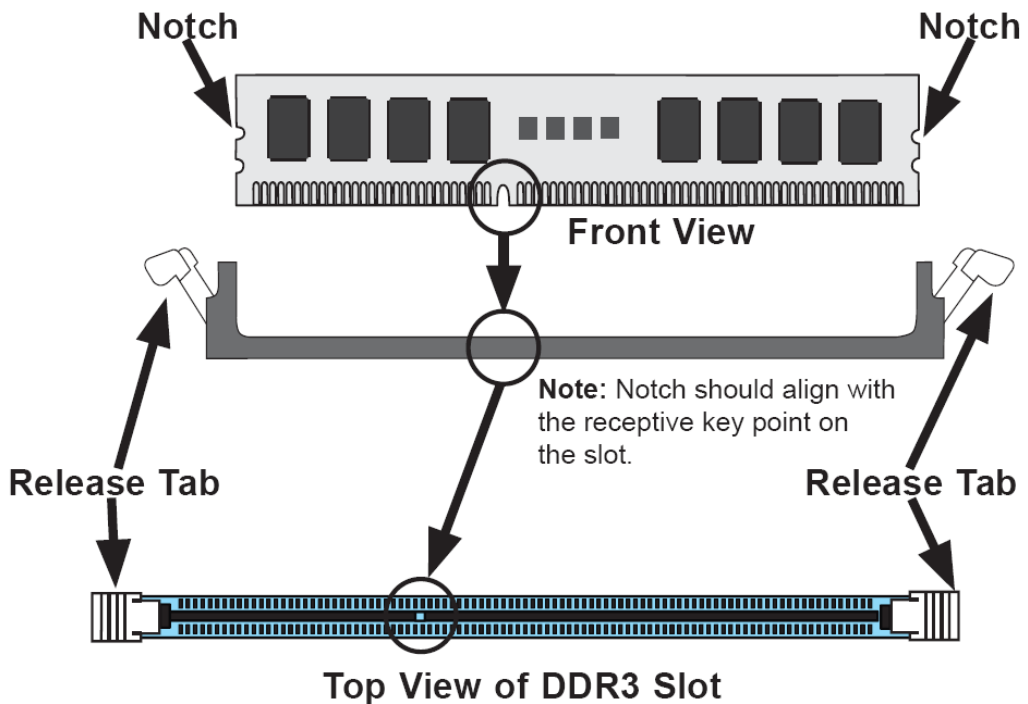

Figure 5-3. Installing DIMM into Slot
2. Insert each DIMM module vertically into its slot. Pay attention to the notch along the bottom of the module to avoid installing incorrectly (see Figure 5-3).